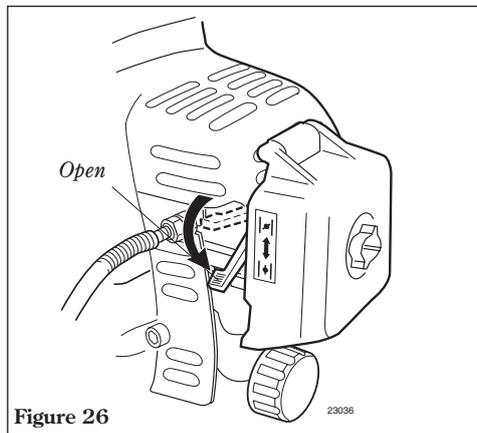

Figure 26
5. When the engine starts, slowly move the choke lever to the "OPEN" position. See Figure 26. (If the engine stops after the initial start, close the choke and restart.)
2. If the attachment rotates when the engine is at idle, reduce the idle speed by turning the idle adjustment screw counter-clockwise. See Figure 26.